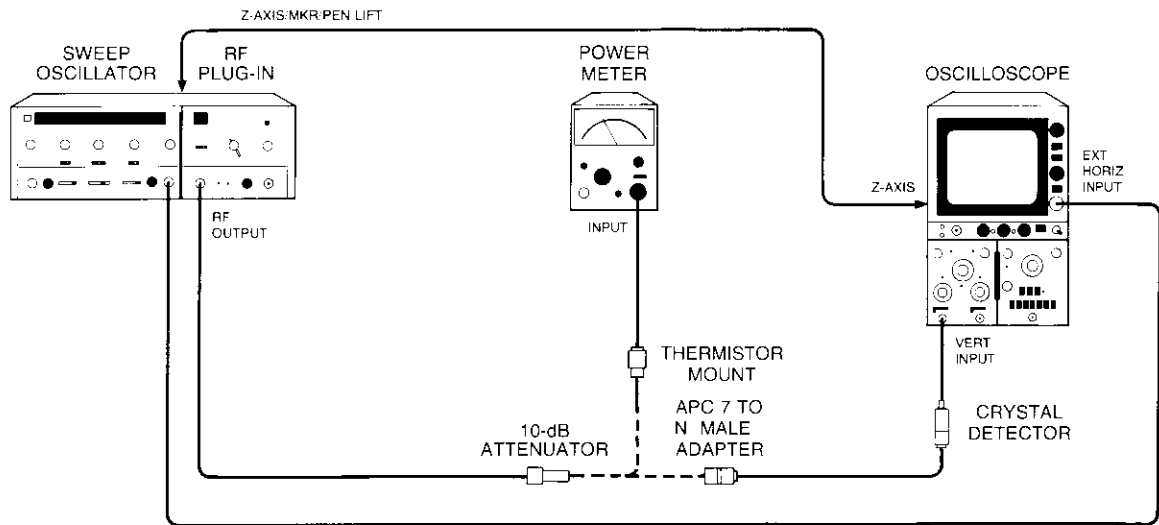

Figure 4-7. Internal Leveling Test Setup
Equipment listed is for three test setups (Figures 4-7, 4-8 and 4-9)
- a. Connect equipment as shown in Figure 4-7 with RF OUTPUT connected to crystal detector and oscilloscope. Allow 30 minutes warm-up time. Set controls as follows:
- c. Connect equipment as shown in Figure 4-7 with RF OUTPUT connected to thermistor mount and power meter.
- f. Connect equipment as shown in Figure 4-7 with RF OUTPUT connected to crystal detector and oscilloscope. Adjust oscilloscope to establish +5 dBm reference on top horizontal graticule.
- g. Connect equipment as shown in Figure 4-7 with RF OUTPUT connected to thermistor mount and power meter. Adjust 86290A power to +6.4 dBm ±0.1 dB. (It may be necessary to change frequency.)
- h. Connect equipment as shown in Figure 4-7 with RF OUTPUT connected to crystal detector and oscilloscope. Note +6.4 dBm reference point on oscilloscope; area between this trace position and top graticule line represents leveling tolerance of ±0.7 dB.